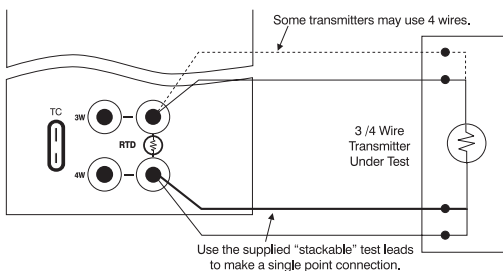

Figure 5.
1. As described previously in section A the PTC8001 can source resistance in a RTD Transmitter or measuring device. In many cases the unit under test will require a 3 or 4 wire connection to achieve best accuracy. Refer to Figure 5 for connection information.